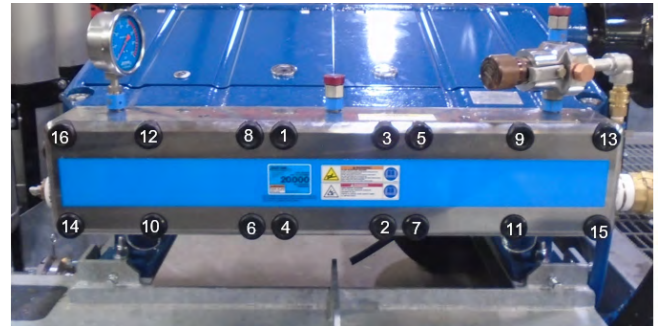

Figure 78: Manifold Bolt Tightening Sequences.
4. Install the manifold bolts and tighten in a criss-cross sequence starting with the center bolts (Figure 78). Proper torque is 350 ft.-lb. (470 N·m). For 2000 Series pumps, proper torque is 120 ft-lbs (162 Nm). Due to the hydraulically biased Uni-Valve design, it is not necessary to use a torque wrench. The pump wrench and a hammer is adequate.